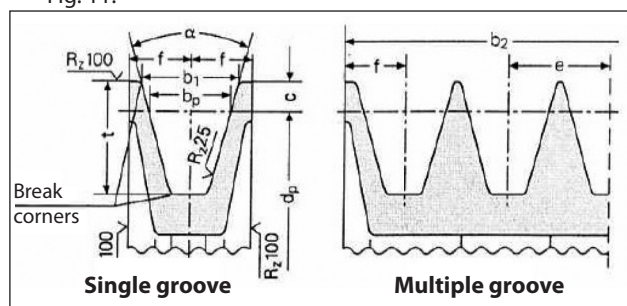

Fig. 10
- Use pulleys with V-belts with the size of the groove required/recommended by the manufacturer of belt used. In the absence of directions, follow Fig. 10 and the table in Fig. 11.